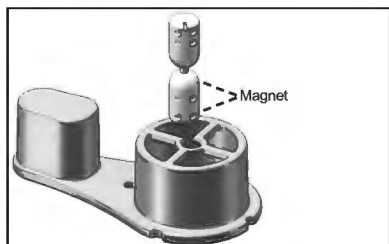

Figure 2
2. Ensure that the ELD magnetic hourglass can freely pivot on the ELD crosshairs. If the hourglass becomes detached from the holder, it can be re-attached by clipping the hourglass neck through the gap in the holder, as per figure 2. Please observe the hourglass orientation configuration. The magnet should be placed downwards as indicated.